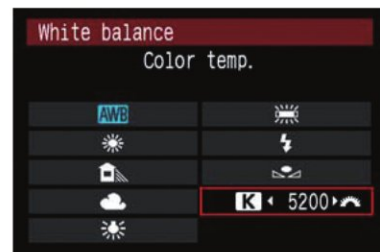

Fig. 008 White balance setting screen
The white balance settings are the same as the EOS 30D's. Only the color temperature (K) as a preset WB is new (Fig. 008). The minimum color temperature has been lowered from 2800K to 2500K in order to cover tungsten light.